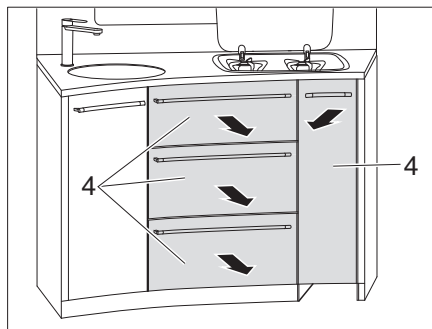

Fig. 122 Removing kitchen drawers
- Remove the kitchen drawers (Fig. 122,4).